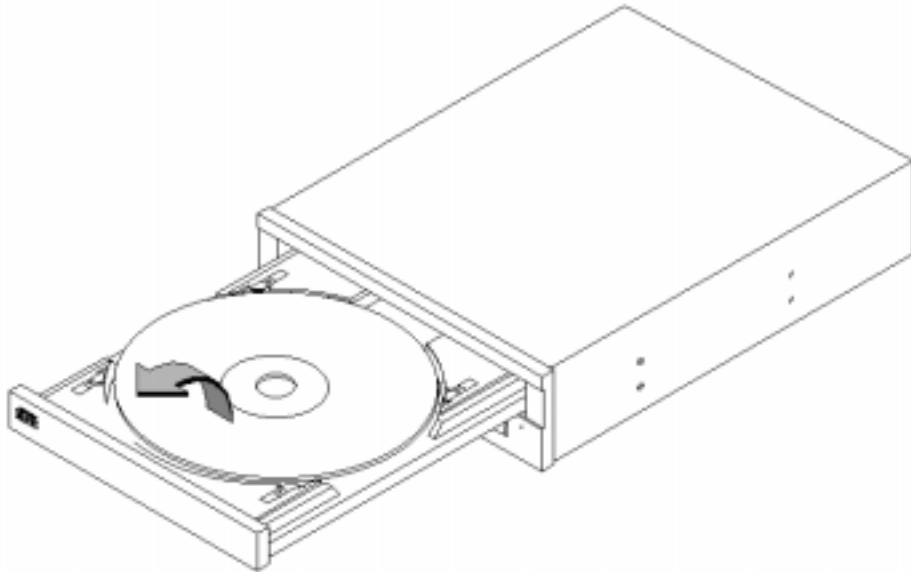

Figure 7-4 **Removing a CD-ROM Disc From a Drive**
- 2 Wait until the drive has fully ejected the disc tray, then remove the disc from the tray as shown in Figure 7-4. Be careful to touch only the edges of the disc.